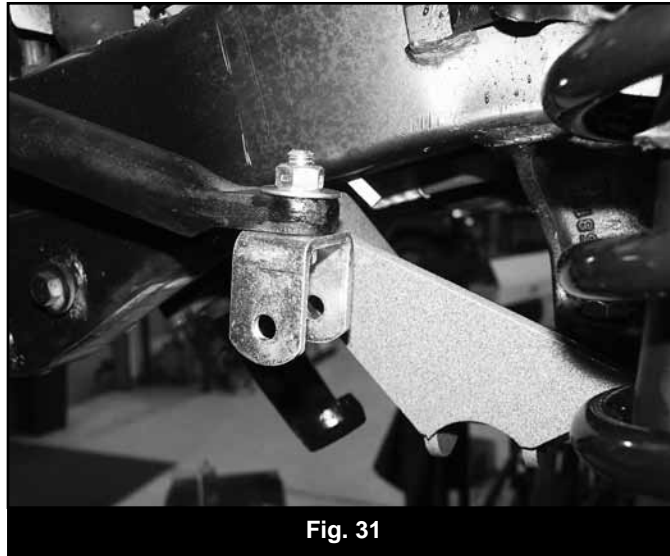

Fig. 31
80. Install the provided upper u-bracket (01325) to the sway bar using the original link mounting hole with a 7/16" x 1-1/2" bolt, nut, 7/16" SAE and 7/16" USS washers (BP 718). Install the bolt up through the u-bracket with an SAE washer into the sway bar. Fasten with the nut and USS washer. Position the bracket so that the thru-holes are parallel with the stud on the axle (Fig 31). Torque to 50 ft-lbs.